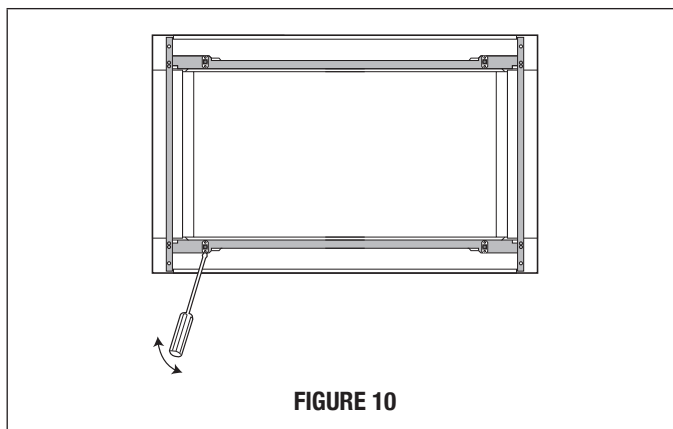

FIGURE 10
- C. DISASSEMBLY: The FRONT FRAME and BACK FRAME come pre-assembled with ball studs engaged in the receivers. Separate the FRONT FRAME from the BACK FRAME. Place the assembly facedown onto a protected surface. At the location of the ball stud, insert a flathead screwdriver between the FRONT FRAME and the BACK FRAME and gently pry up to disengage the ball stud from the receiver. Repeat for each corner. See Figure 10.